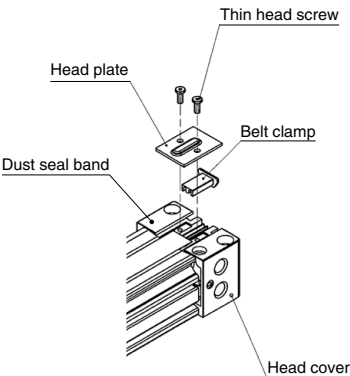

Fig. 4
- c. Attach one side of the dust seal band, the belt clamp and the head plate with thin head screws. (Refer to Fig. 4.) (Refer to Table 2 for the thin head screw tightening torque.)